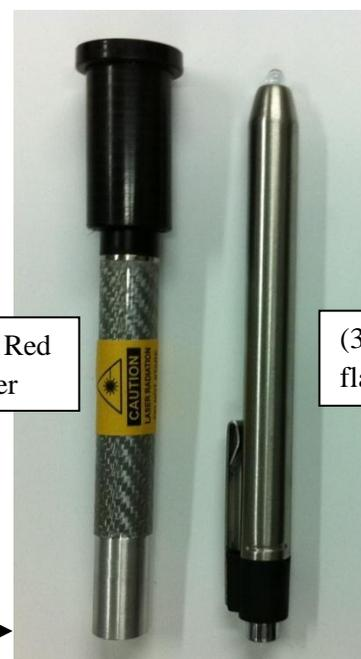

Figure 2: Close-up of the two light sources.
- (1) The sample - a piece of plastic material fixed in a slide frame. **The sample is sensitive - do not touch it. To adjust the sample's position, use its holder and stand.**
- (2) A holder and stand for the slide frame. The stand includes a handle which can be used for fine rotations of the sample. **Do not remove the slide frame from its holder.**
- (3) A white LED flashlight. The flashlight can be turned on and off using a button at its rear end. **Do not confuse it with the laser (see Figure 2).**
- (4) A red laser pointer. **The laser is marked with a warning label. Do not confuse it with the white flashlight (see Figure 2).** The laser may be turned on and off by moving its black cap back and forth. **Don't try to remove the cap – it may be dangerous, and you may break the laser.** The laser's battery will weaken after about an hour - do not keep it turned on longer than necessary. The laser's wavelength is $\lambda = 652\text{nm} \pm 2\text{nm}$.
- (5) A single stand to be used for the two light sources. **At the start of the experiment, the flashlight is fixed to the stand, while the laser lies on the desk.**
- (6) A white screen on wooden legs, covered with millimeter graph paper. There is a hole near the middle of the screen. You are allowed to make markings on the screen.
- (7) A wooden stake that can be moved back and forth on a wooden bench. You are allowed to make markings on the bench.
- (8) A tape measure.
- (9) A ruler.
- (10) Millimeter graph paper.
- (11) A desktop lamp which can be turned on or off for your convenience.